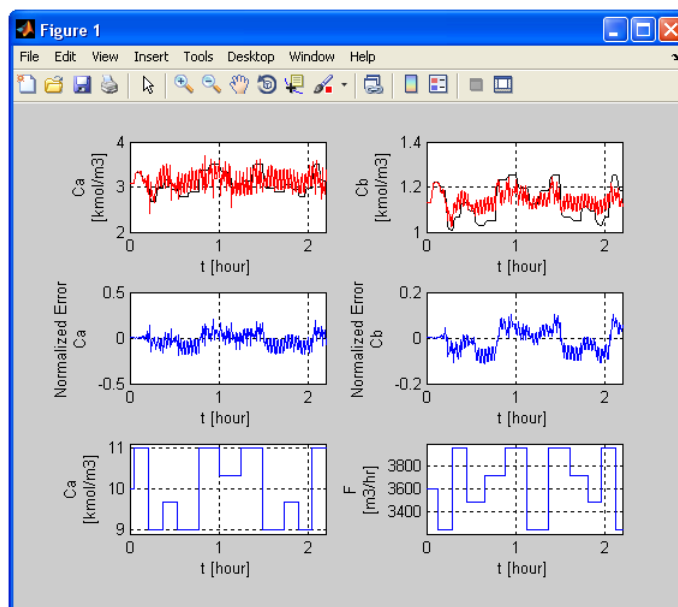

Figure 38: Predictions for Validation Sequence using D-RM Predicted History Data
7. Repeat the commands in Step 5 by clicking  followed by  on the toolbar. Figure 38 shows the plots of the validation sequence.